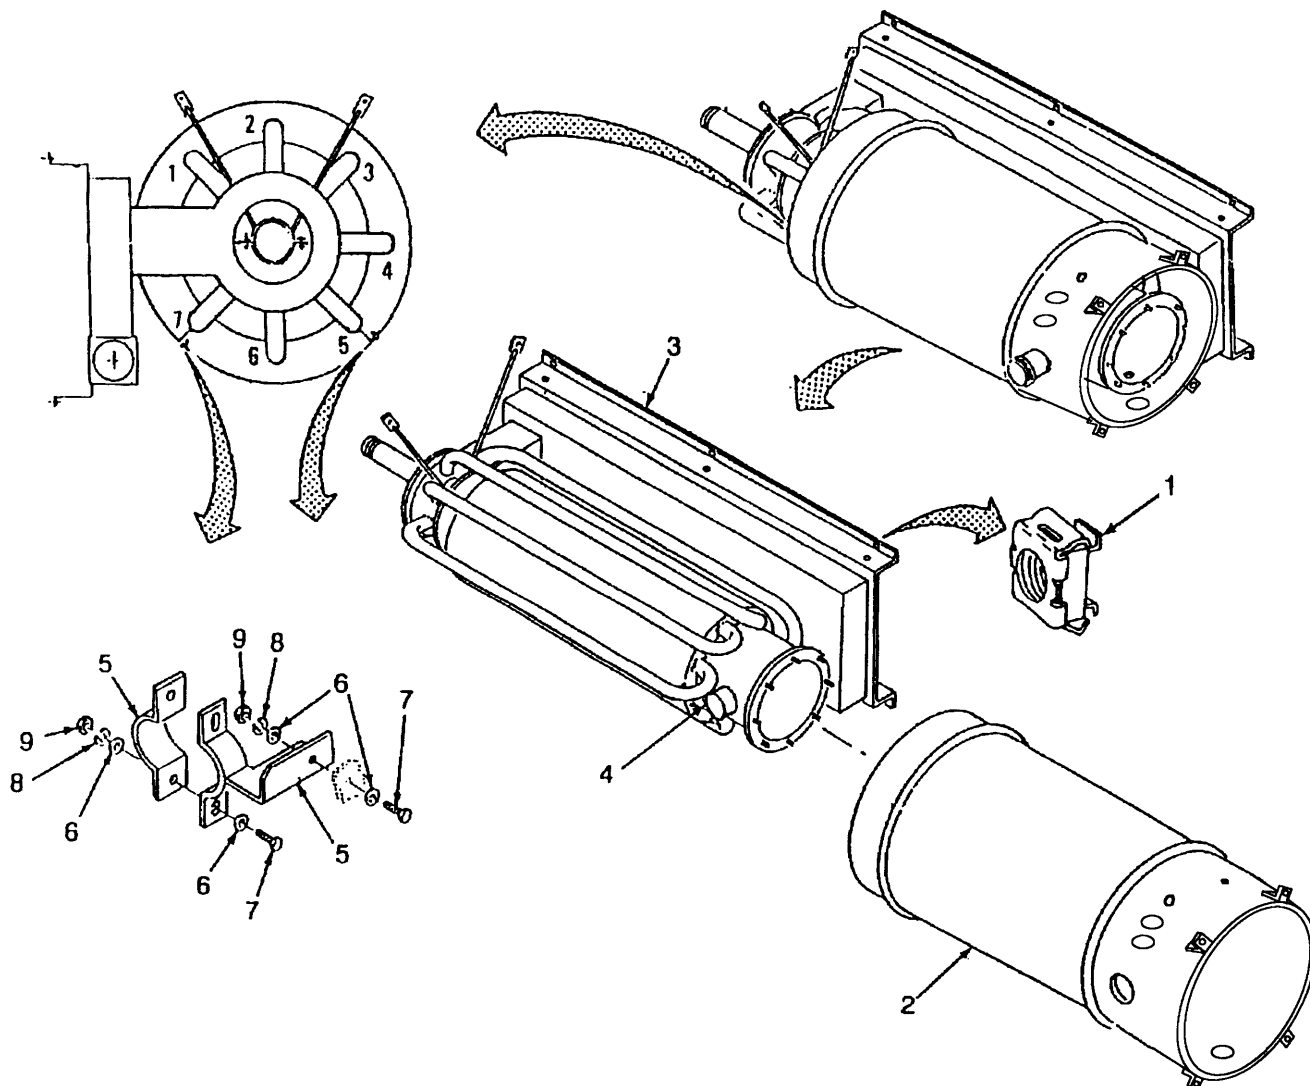

Figure 5-16.1. Heat Exchanger, (Model H120-1) Assembly
e. Assembly - continued (Refer to Figure 5-16.1)
- (2) Install any captive nuts (1) removed during disassembly.
- (3) Slide heat exchanger shell (2) onto heat exchanger (3) with air inlet pipe (4) aligned with large opening in side of shell.
- (4) Install two clamps (5) on heat exchanger (3), one on tube 5 and one on tube 7. Secure with eight flat washers (6), four screws (7), four lockwashers (8) and four nuts (9). Tighten hardware hand tight only, hardware will be tightened during installation of assembly.